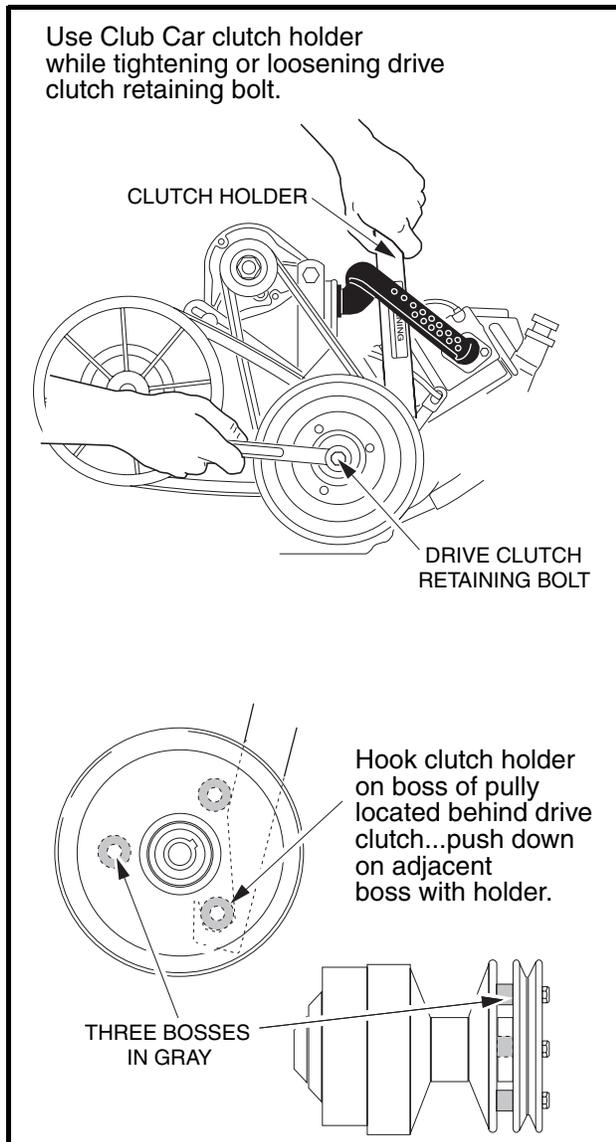
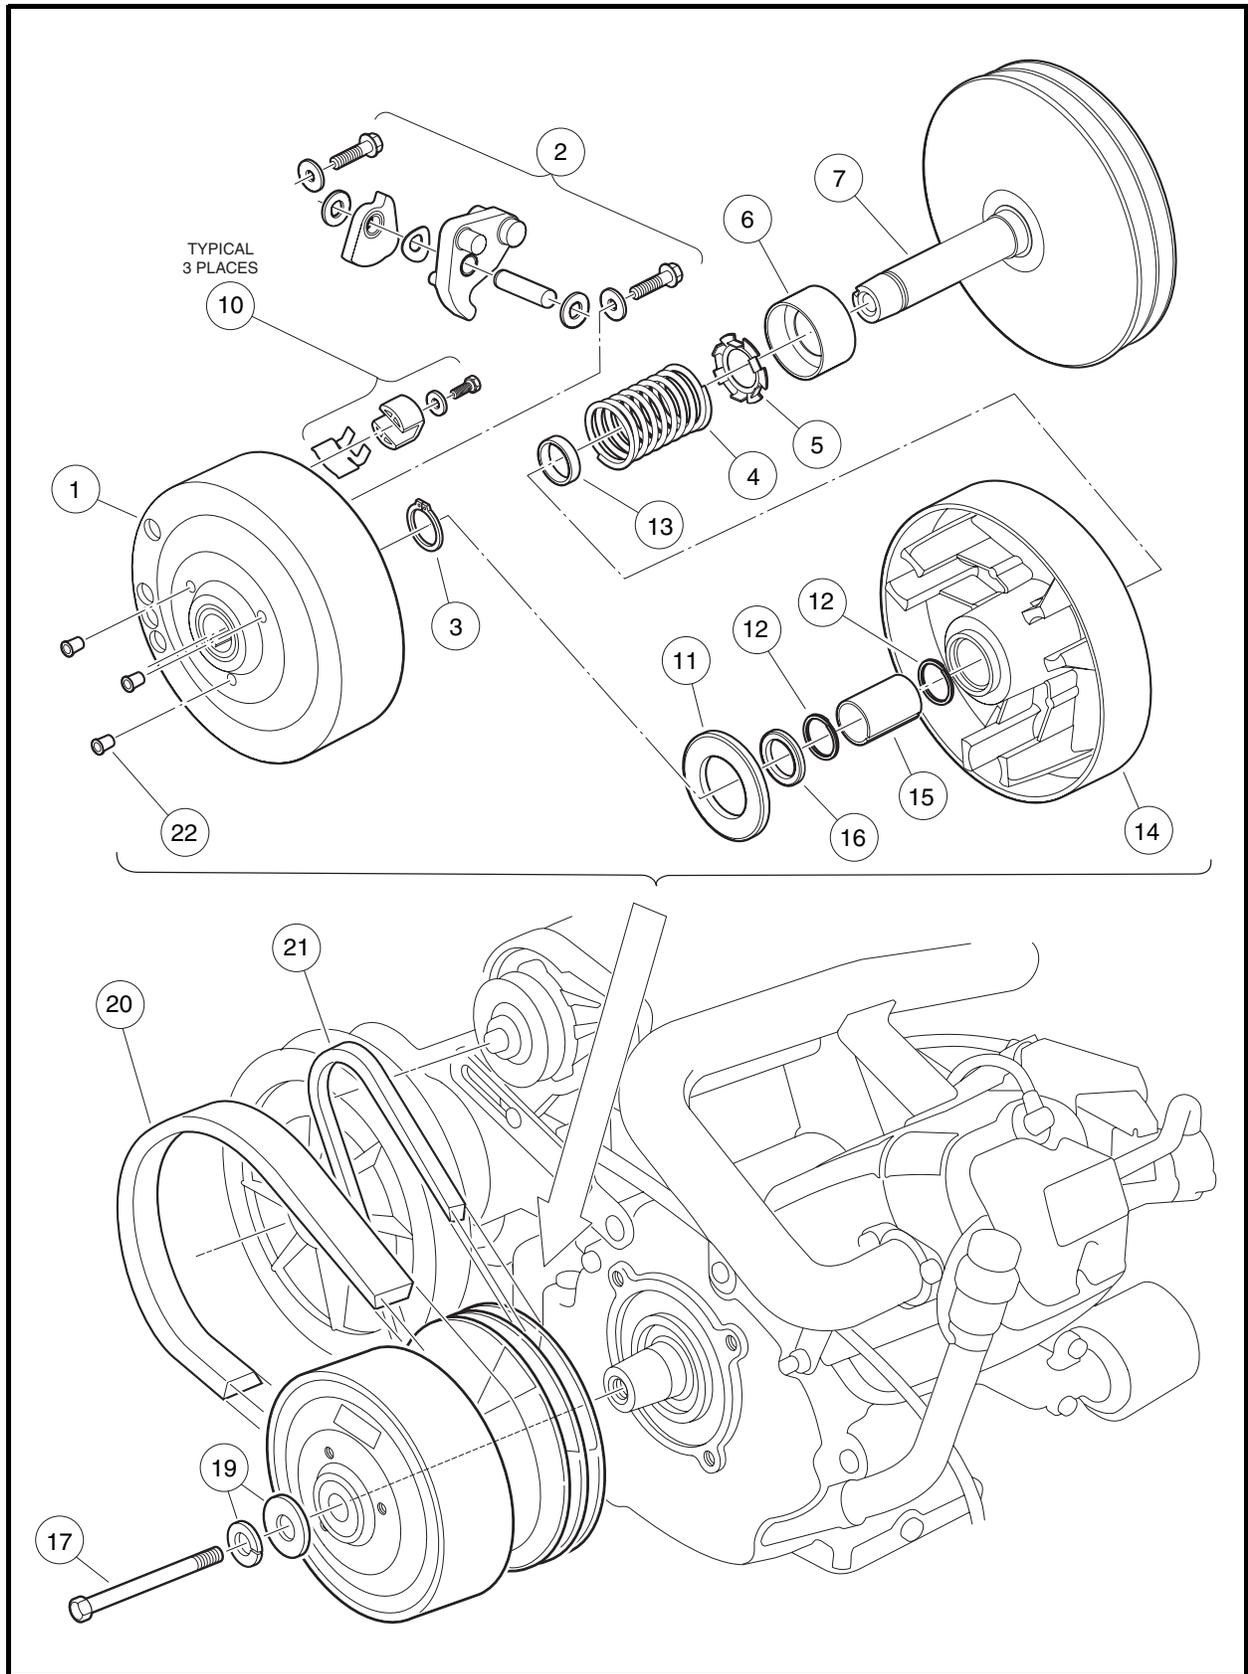
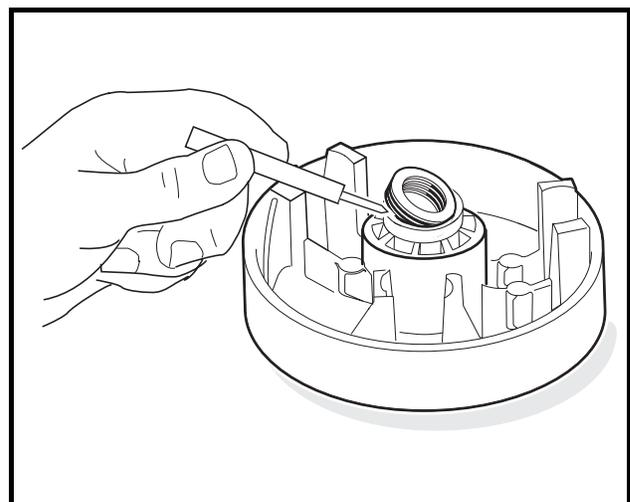

Figure 17-3 Loosen Retaining Bolt
Figure 17-5 Drive Clutch Assembly
Figure 17-13 Spiral Back-up Rings
3. If cleaning the driven clutch does not solve the problem, disassemble and thoroughly clean all parts of the drive clutch. Be sure to clean the plastic drive buttons (10) (**Figure 17-5, Page 17-6**).
4. Remove the drive clutch retaining bolts (17) and mounting washers (19) (**Figure 17-5, Page 17-6**) See also **Figure 17-3, Page 17-4. See following NOTE.**
- **Use only a dry cloth to lightly wipe the shaft of the fixed face assembly (7) (Figure 17-5, Page 17-6). Do not use a brush or steel wool. These will damage the surface of the shaft.**
2. Remove the drive clutch hub (1) (Figure 17-5, Page 17-6):
- 2.1. Remove the three plugs (22) from the clutch puller attachment holes (Figure 17-5, Page 17-6).
3. Remove the thrust washer (11) from the moveable face (14) (Figure 17-5, Page 17-6).
- Remove the retaining ring (3) from the shaft of the fixed face assembly (7) and slide the moveable face (14) off the shaft (**Figure 17-5, Page 17-6**). See following **NOTE**.
**NOTE:** If the moveable face is removed from the hub of the fixed face, the spiral back-up rings (12) must be replaced with new ones (**Figure 17-5, Page 17-6**).
- Remove the spacer (16), and spring (4) and retainer (5). The spring retainer can be removed from the spring if necessary (**Figure 17-5, Page 17-6**).
- Use a scribe or small pick to remove the spiral backup rings (12) from each end of the bore in the fixed face assembly (**Figure 17-5, Page 17-6**). See also **Figure 17-13, Page 17-9**. Discard the rings.
- Inspect the idler bearing (6) for smooth rotation or seal damage (**Figure 17-5, Page 17-6**). See following **NOTE**.
- Inspect the bore of the moveable face assembly (14) for scarring or wear. The moveable face assembly must be replaced if the bore is worn to a diameter of 0.883 inch (22.4 mm) or larger (**Figure 17-5, Page 17-6**).
- Inspect the steel shaft (7) on the fixed face assembly. There should be no measurable wear anywhere on the shaft. Replace the shaft if it is worn, scratched, or damaged.
- Inspect the thrust washer (11) for wear. If it is worn more than 0.030 inch (0.76 mm), turn it over or replace it with a new one.
- Inspect the primary weights (2) and the hub casting for wear. If the primary weights show signs they are touching the casting, the tips of the weights have worn beyond specification and they must be replaced.
6. Inspect the pins on the primary weights (2). There should be no measurable wear. Replace them if they are worn, scratched, or damaged.
1. Press idler bearing (6) onto the shaft of the fixed face assembly (7). Press on the inner race of the bearing only. Make sure that the cup side of bearing is facing away from the fixed face (**Figure 17-5, Page 17-6**).
2. Using needle nose pliers, install the spring retainer (5) onto the spring (4).
3. Install the spring (4) and retainer (5) into the cup of the idler bearing (6).
4. Install the spacer (13) onto the shaft of the fixed face.
5. Install a new spiral backup ring (12) in each end of the bore of the moveable face assembly (14).
6. Install the moveable face assembly (14) onto the shaft of the fixed face assembly (7).
- 6.2. Install the retaining ring (3) (**Figure 17-5, Page 17-6**).
12. Install the 1/4-20 bolts and washers (2) and tighten them to 10 ft-lb (13 N·m) (**Figure 17-5, Page 17-6**).
16. Install the thrust washer (11) onto the moveable face assembly (**Figure 17-5, Page 17-6**).
17. Install the hub assembly (8) on the moveable face assembly and align the match marks made before disassembling the clutch. Press the hub assembly on by hand.
18. Replace the three plastic plugs (22) into the hole protectors (**Figure 17-5, Page 17-6**).
1. Place the drive clutch assembly on the crankshaft taper. Position the mounting washer (with the green side facing out) on the bolt (17) and start the bolt into the crankshaft (**Figure 17-5, Page 17-6**). See following **NOTE**.
2. Tighten the drive clutch retaining bolt (17) to 25 ft-lb (33.9 N·m) (**Figure 17-5, Page 17-6**).